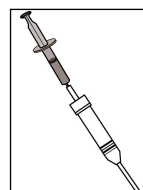
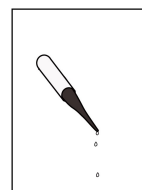

Fig. 4c
Fig. 4d
- It is advisable to flush luer port (guide wire port) of the stent delivery system with a 10cc syringe of saline to expel air (Refer to Fig. 4c). Continue to flush until saline flows out of the distal catheter tip (Refer to Fig. 4d).